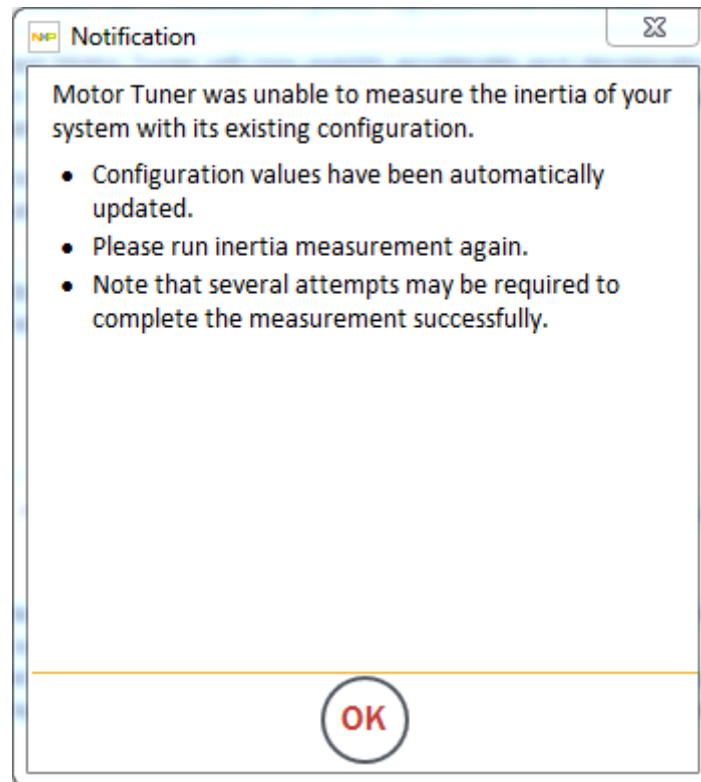

Figure 201. Incomplete inertia measurement
- System Inertia Measurement from Motor Tuner attempts to identify your system inertia with a default configuration, then adjusts this configuration in the event of failure to complete (Figure 201). KMS notifies and requires the user to explicitly retry after each incomplete